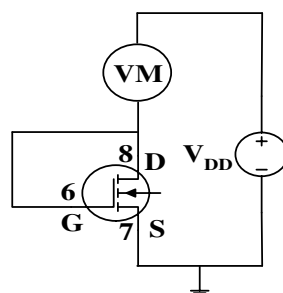

Figure 2. Circuit for measurement of V_t and K_n of an NMOSFET.
6. Simulate the differentiator of Figure 2 for 4 cycles using PSpice with the measured value of R and the triangular wave input that you have used in the lab and have the simulation result printed. Compare the simulation result with your measurement.
1. Measure the resistance and connect the circuit as shown in Figure 2. Note that a voltmeter (VM) is in series with the drain and V_{DD} ; and **G** and **D** are shorted. **Use the pin numbers as shown in Figure 2.**